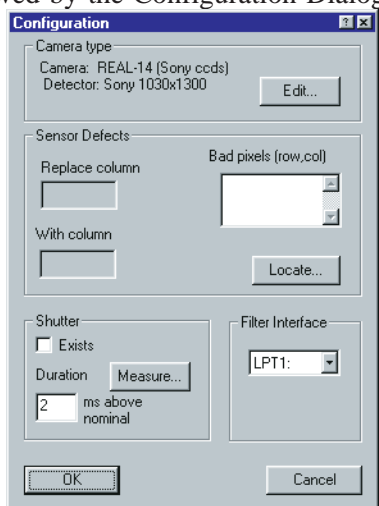

Figure 4-3 Configuration Dialog Box
- **CONFIGURE CAMERA**, displays the Configuration dialog box (Figure 4-3) that lets you specify or modify the camera's configuration.